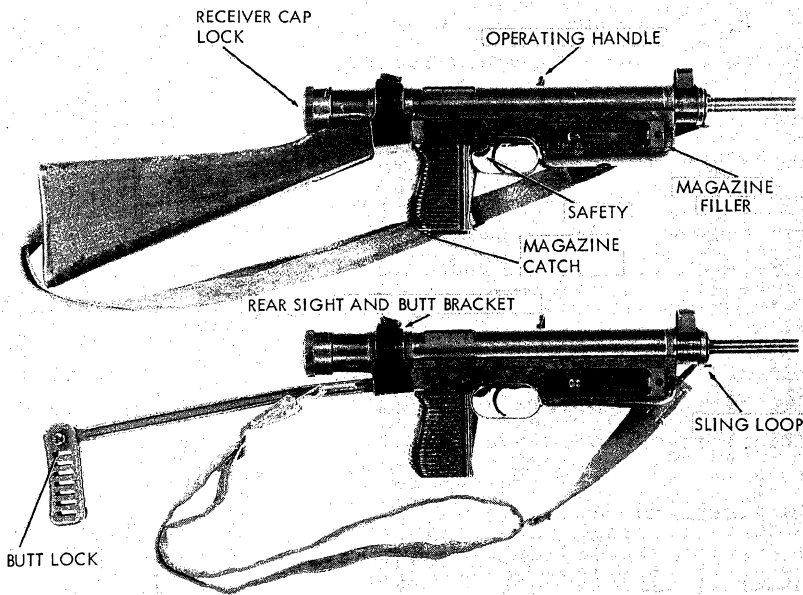
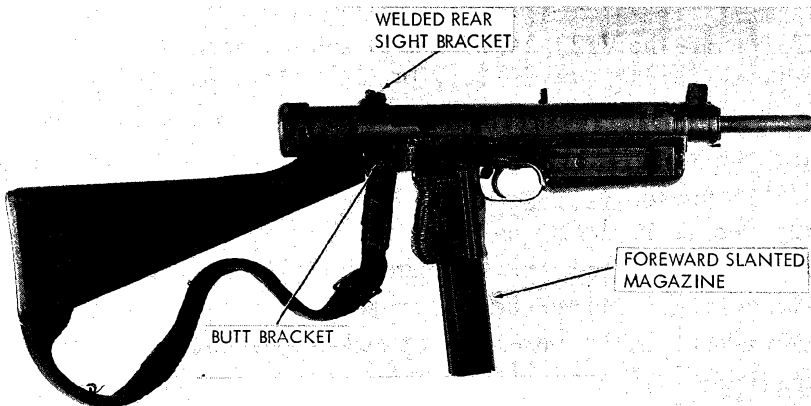
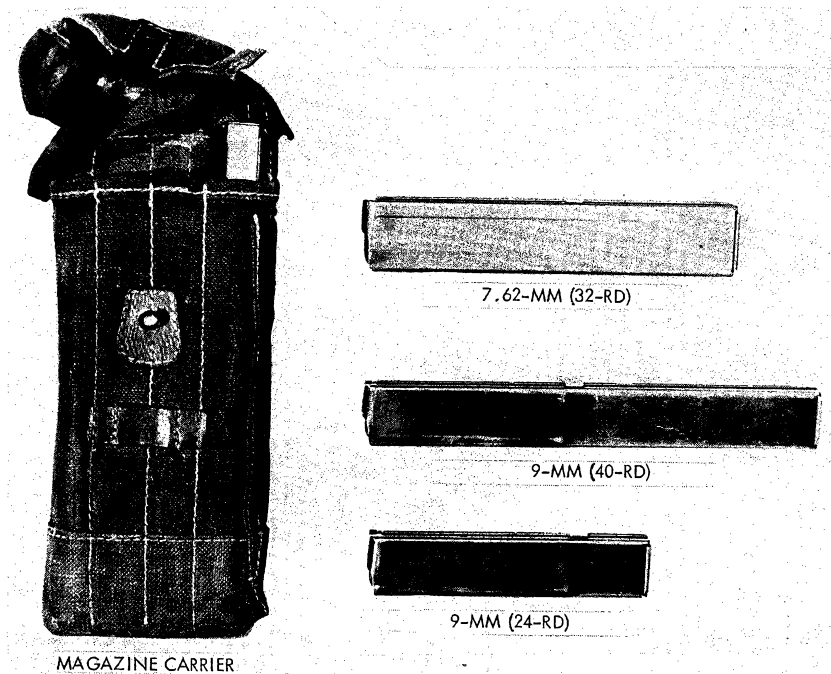
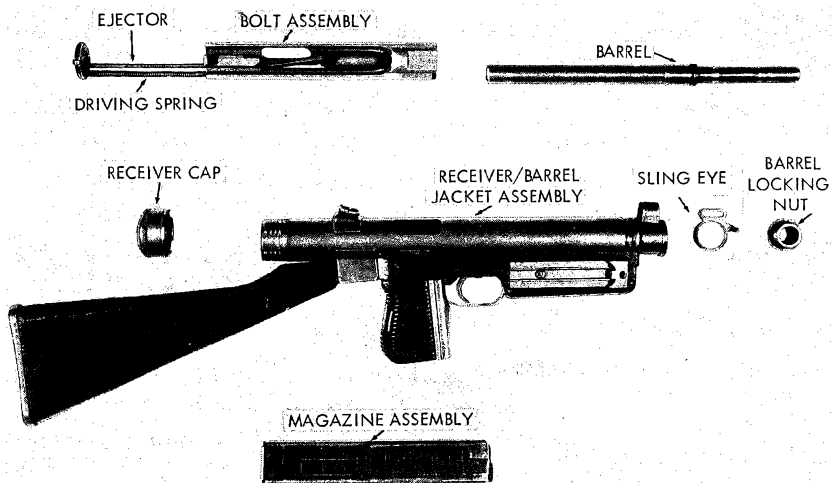

Figure 43. Czechoslovak Vz23 (top) and Vz25 submachinegun.
Figure 44. Czechoslovak Vz24 submachinegun.
Figure 45. Czechoslovak submachinegun magazines.
Figure 47. Vz24 submachinegun disassembled.
a. The 9-mm Vz23 and 25 submachineguns (fig 43) and the 7.62-mm Vz24 (fig 44) and 26 submachineguns are all mechanically similar variations of the same weapon. The Vz23 and 24 both have fixed butt stocks, but they fire different cartridges, the Vz25 and 26 have folding metal butts, and also fire different cartridges. The main design change, other than those occasioned by the different cartridges, is at the rear of the receiver. Early Vz23 and 25 weapons have a machined band, for mounting the rear sight and stock, encircling the receiver; late production Vz23 and 25's and all Vz24 and 26's have brackets (fig 44) welded to the receiver for mounting the sight and stock. The magazines of the Vz24 and 26 submachineguns have a pronounced forward slant when they are inserted.
b. These guns are all blowback-operated, selective fire, box magazine-fed weapons. The 9-mm magazines are made in 24- and 40-round versions; the 7.62-mm magazine holds 32 rounds (fig 45). The type of fire, fully automatic or semiautomatic, is governed by the trigger pull—a light pull fires one shot and a heavy pull fires continuously. The unusual bolt is very long and heavy; but, because it telescopes over the barrel, the overall length of the gun is quite short. An automatic safety lock (the operating handle) locks the bolt forward to prevent the gun from firing accidentally if it is dropped. An integral magazine filler is mounted on the right side of the forestock (fig 43). The Vz23 and 25 submachineguns fire 9x19-mm Parabellum-type cartridges; the Vz24 and 26 fire 7.62x25-mm pistol cartridges (sec VI).
c. With an initial slight upward motion, pull the operating handle (fig 43) fully to the rear.
d. For accuracy, the folding stocks of the Vz25 and 26 should be used to steady the guns when firing. Press in on the butt lock (fig 43) and turn the butt to disengage it from the sling loop; then swing the stock toward the rear until it locks into position.
(1) Clear the gun (para 72h), but do not insert the magazine or apply the safety latch.
(2) Using a cartridge, punch, or similar item, press in the receiver cap lock in the middle of the receiver cap (fig 43). Rotate the receiver cap to disengage it from the receiver and remove it.
(3) Pull the operating handle to the rear to start the driving springs out of the back of the receiver. Grasp the round plate and pull the bolt assembly out of the receiver.
(4) If this weapon is the Vz25 or 26 submachinegun, unfold the stock. On all guns, unscrew the barrel locking nut (fig 47), using the front of the bolt as a wrench, if necessary, and pull the barrel out of the receiver.
(5) No further disassembly is necessary or desirable.
b. The recoil of the fired cartridge forces the bolt to the rear, compressing the driving spring. The fired cartridge case is held to the bolt by the extractor until the case strikes the ejector (fig 47). At this instant, the ejection ports in the bolt and receiver are aligned with each other, and the cartridge case pivots about the extractor and is thrown out the ejection ports. The bolt continues to the rear until it strikes the plate on the driving spring assembly; the driving spring then drives the bolt forward again.